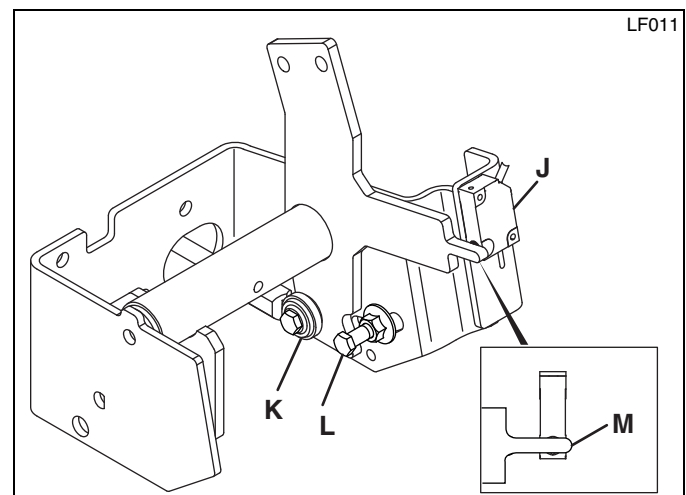

Figure 3K
4. Engage parking brake and set mow switch to neutral. Make sure neutral switch at traction pedal is closed. (Figure 3K - **M**). Distance between the switch and metal pointer "M" must be between 1/16 and 1/8 in. (1.5 and 3 mm).
6. Connect traction linkage. When connecting linkage at traction pedal, make sure pointer on traction pedal bracket is centered over neutral switch (**M** - Figure 3K).